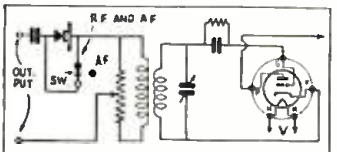

Fig. 3. Audio oscillator.
**A N. A. F. OSCILLATOR.** Many Service Men have modulated oscillators on which no provision is made for using the A.F. modulation separately. A simple way of doing this is shown in Fig. 3. The modulated R.F. output is rectified by the crystal detector, which preferably